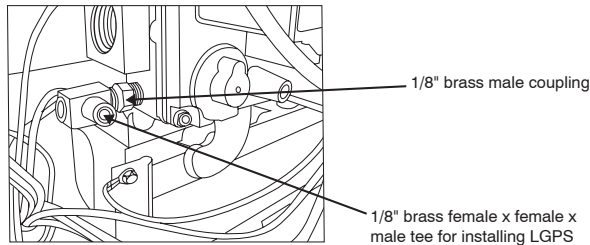

**Fig. 41 - Gas Valve Inlet Pressure Tap**
3. Apply pipe dope sparingly to the ends of the 1/8-in. (3 mm) brass male coupling (provided in kit) and install it in 1/8-in. (3 mm) tapped opening in gas valve inlet pressure-tap. Tighten fitting with a small wrench. (see Fig. 41).
4. Attach the female end of the female x female x male brass tee (provided in kit). Tighten fitting with a small wrench so the male portion of the tee points out from the furnace. (see Fig. 41).